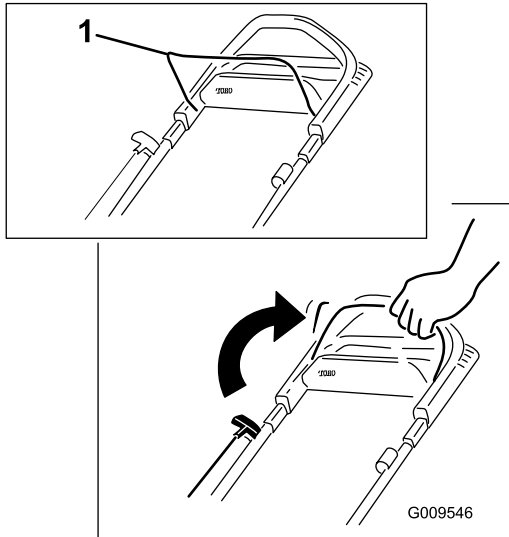

Figure 11
1. Hold the blade-control bar against the handle (Figure 11).